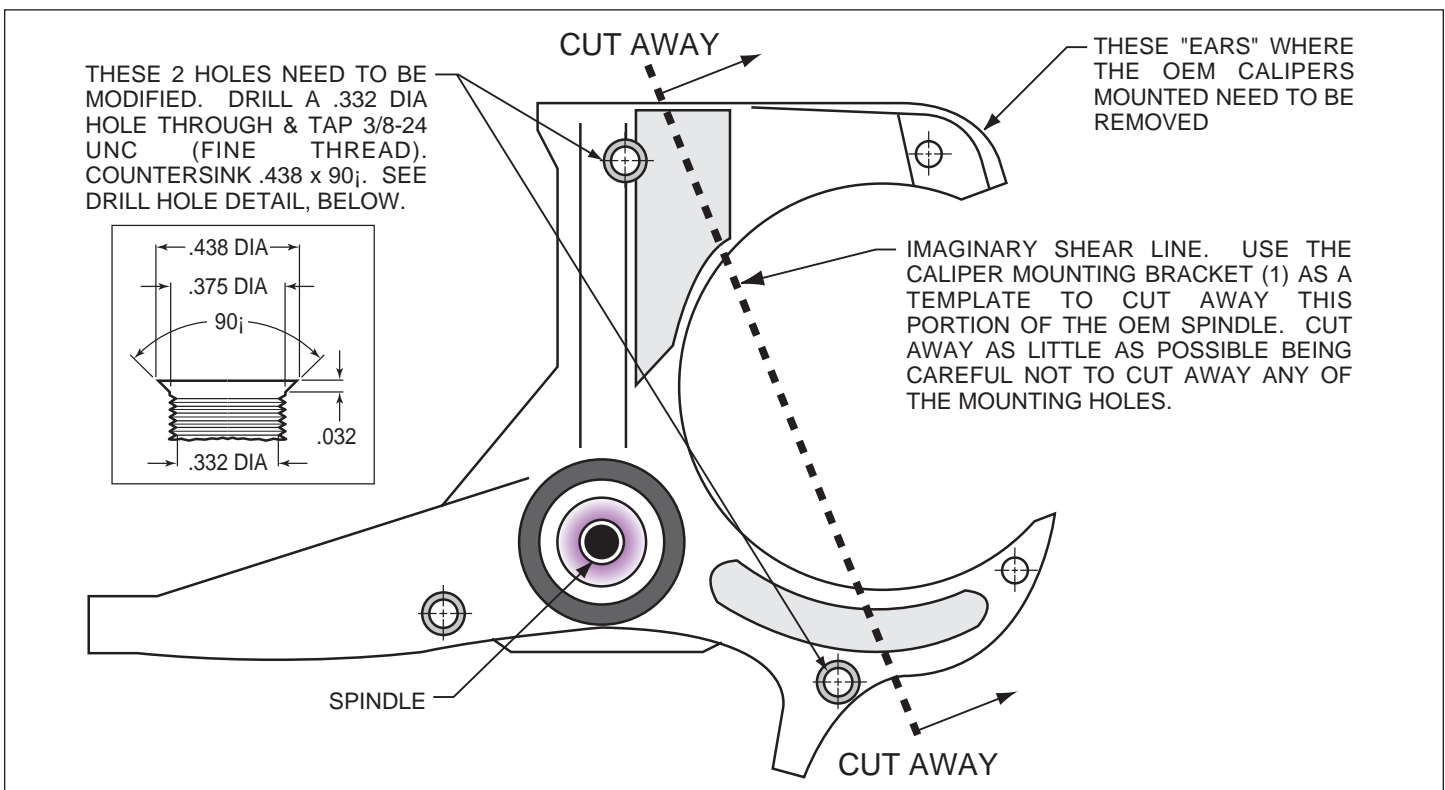

Figure 1. Steering Arm / Spindle Modifications
These modifications should be performed by a qualified machinist. Refer to Figure 1 as necessary (numbers in parenthesis refer to the parts list on page four). Only one view of the steering arm/spindle is shown, but the modifications need to be performed on both steering arm/spindles.
- Mount the adapter/rotor assembly (8/9) to the hub (5) using bolts (11) (finger tight), as shown in Figure 1. Using an alternating sequence, remove bolts one at a time, apply red *Loctite*® 271 to the threads, and torque to 55 ft-lb.
- Pack the small outer bearing cone (12) with high temperature disc brake bearing grease and install into front of hub (5). Slide the hub/rotor assembly (5 and 9) with outer bearing cone (12) onto the spindle. Secure using stock washer, adjusting nut and nut locking device.
- Install the dust cap (15) onto the hub (5). Friction created by the o-ring (14) on the dust cap (15) keeps it from unscrewing. The O.D. of the existing spindle washer may be larger than the I.D. of the dust cap (15) not allowing it to seat against the hub face. Therefore, use the spindle washer (13) supplied with the kit instead of the stock washer.